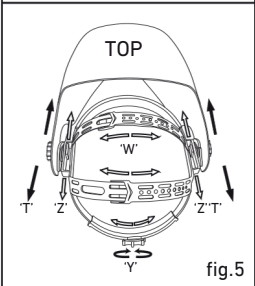

fig.5
The overall circumference of the headband can be made larger or smaller by rotating the knob on the back of the headband (See adjustment “Y” in fig.5). This can be done whilst wearing the helmet and allows just the right tension to be set to keep the helmet firmly on the head without it being too tight.
- If the headband is riding too high or too low on your head, adjust the strap which passes over the top of your head. To do this, release the end of the band by pushing the locking pin out of the hole in the band. Slide the two portions of the band to a greater or lesser width as required and push the locking pin through the nearest hole (See adjustment “W” in fig.5).
Step 1: Undo the block nut (See “T” in fig.5) to adjust the distance between the helmet and your face in the down position.
Step 2: Loosen the block nut on either side of the helmet and slide it nearer or further from your face. (See adjustment “Z” in fig.5). It is important that your eyes are an even distance from the lens. Otherwise, the darkening effect may appear uneven.